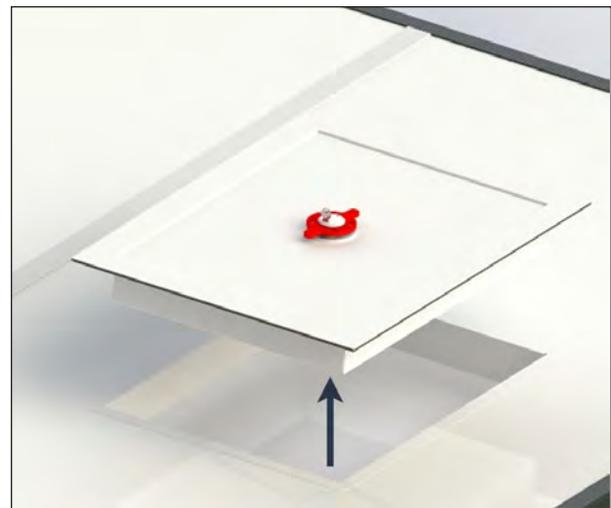

FIGURE 121: REMOVE HATCH
2. Push straight up on the escape hatch and move it to the side, see Figure 121.